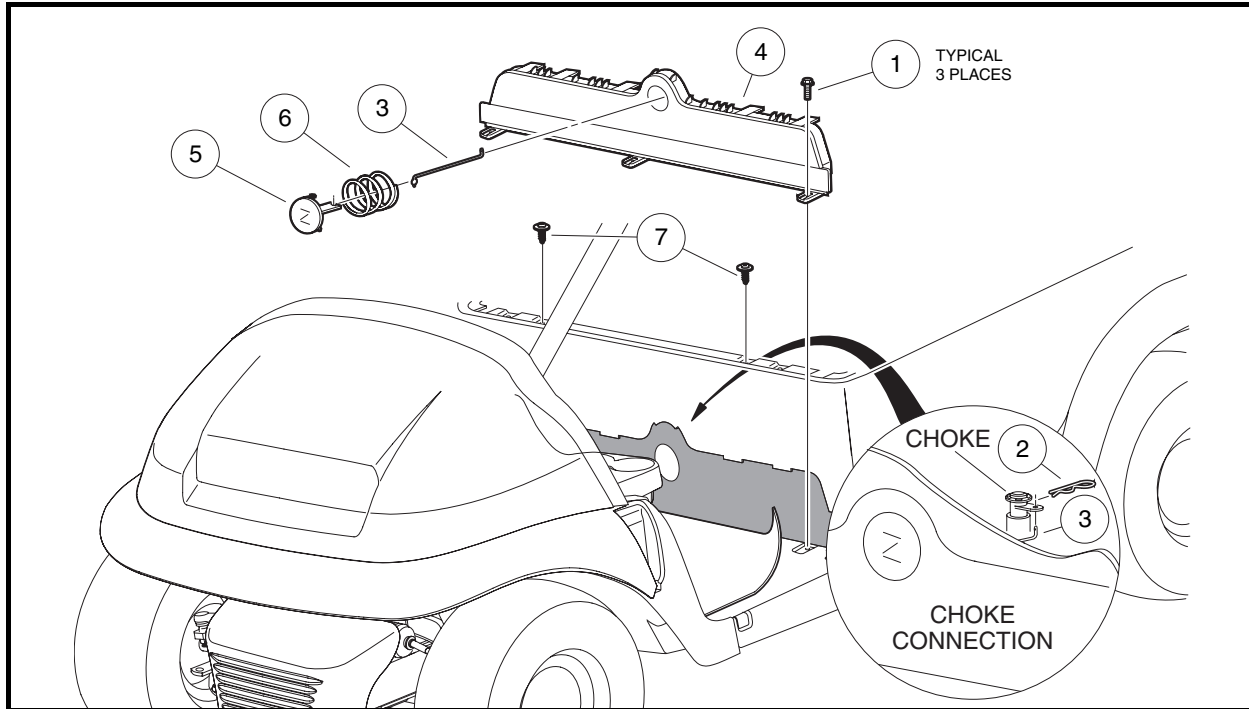

Figure 4-5 Kick Plate and Choke Button
1. Access the inside of the fuel bucket and disconnect hair spring cotter pin (2) from choke rod (3). Remove rod from the choke (**Figure 4-5, Page 4-8**).
3. Remove three screws (1) that hold the kick plate (4) to the vehicle.
4. Remove the two front screws (7) that hold the beauty panel to the vehicle. Raise the forward portion of the rear beauty panel to disengage it from the tabs on the upper portion of the kick plate.
6. Disengage the choke rod (3) from the button (5).
7. Press in on the tabs on the top and bottom of button (5) to free the button from the kick plate. Remove button (5) and spring (6).
1. Place spring (6) in kick plate (4) and orient the tabs on the button (5) with the slots in the kick plate. Press in the button until it snaps in place in the kick plate (**Figure 4-5, Page 4-8**).
2. Insert the tabbed end of the choke rod (3) into the rear slot on the button (5).
3. Position the kick plate (4) on the vehicle and secure with three screws (1). Ensure front lower edge of rear beauty panel mates with the kick plate. Tighten screws to 3.3 ft-lb (4.5 N·m).
4. Insert choke rod (3) through the choke actuator. Secure the rod with hair spring cotter pin (2).